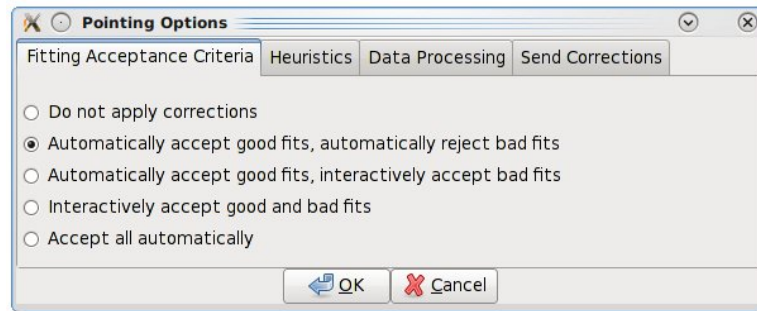

Figure 5.3: The pop-up menu to change the pointing and focus fitting acceptance criteria.
Step 5 Select the new mode in the pop-up window (see Figure 5.3).